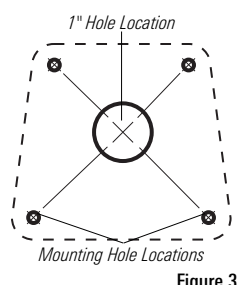
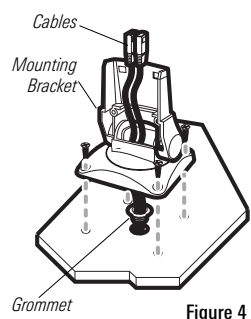

Figure 3
Figure 4
- 1a. If the cables must pass through a hole directly beneath the mounting bracket, mark and drill an additional 1" hole centered between the four mounting holes (Figure 3). Route the cables through the grommet, then press the grommet in place around the cables and into the 1" hole. Pass the cables out of the top of the mounting bracket (Figure 4).